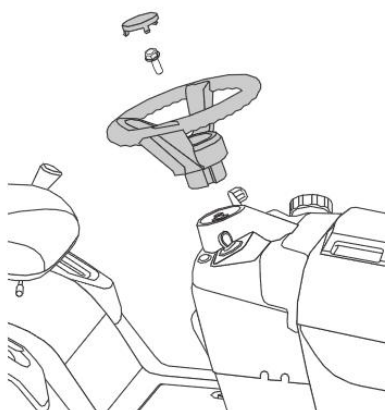

Fig.4
1. Align the steering wheel with the steering shaft, slide the steering wheel down the shaft until into position, and secure the steering wheel with the bolt provided. (Fig.4)